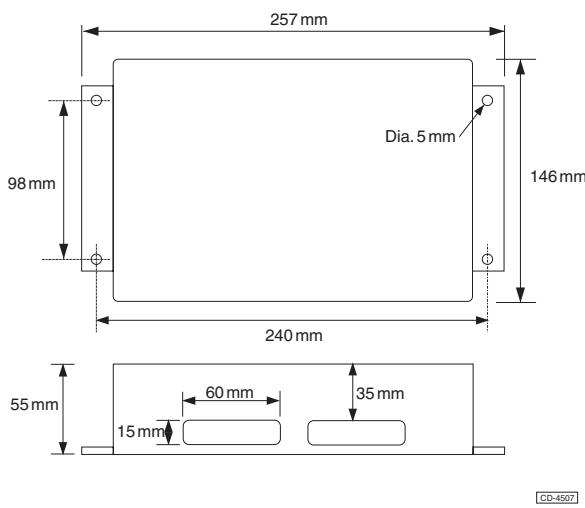

Figure 3f - Ergopod Controller Unit: Dimensions
- 7 The Controller Unit comprises the Ergopod Controller PCB, which is contained within a unit. The dimensions of the Ergopod Controller unit are shown in Figure 3f. The unit is designed to be bolted to a bulkhead or console. A bracket is provided at either end of the unit, for this purpose.